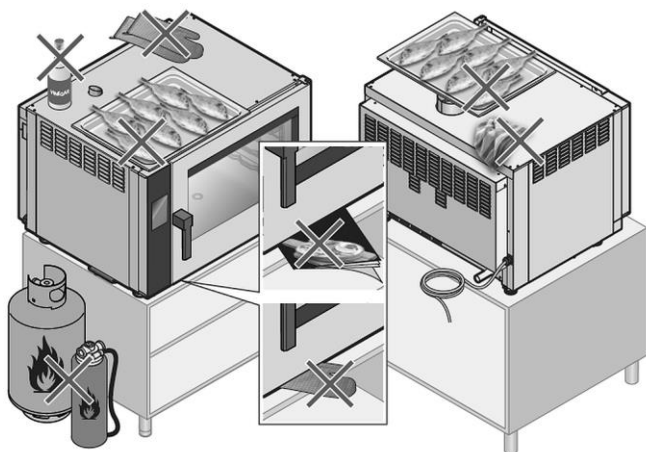

Fig. 17
- Never put any type of GN containers/baking trays, cold/hot containers or other objects on the appliance, even if it is switched off (Fig. 17).